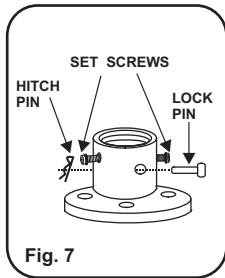

Fig. 7
**Step 4.** Loosen the two Set Screws and remove the Hitch Pin and Lock Pin from the coupling located on the top of the Motor Assembly. (Fig. 7)